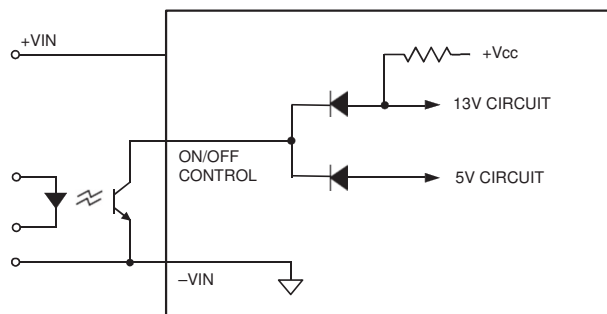

Figure 5. Driving the Negative Logic On/Off Control Pin (simplified circuit)
**Negative** ("N" suffix) logic devices are off when the On/Off pin is left open or is pulled high (see specifications), and on when the pin is pulled low with respect to the -Input as per Figure 5. See specifications.